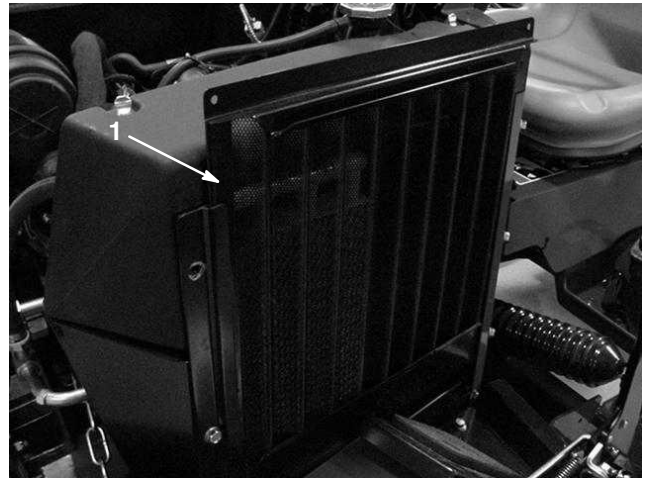
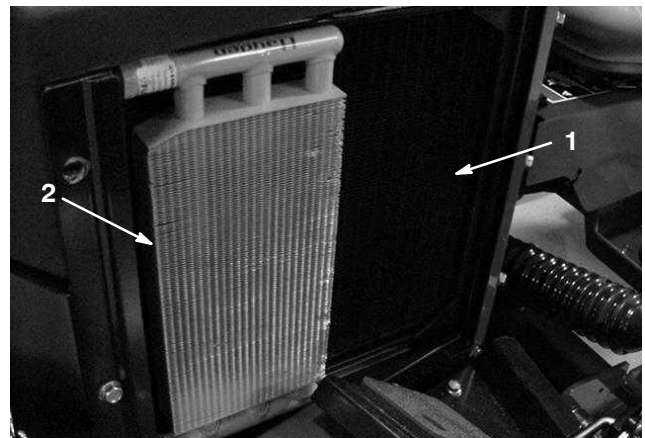

Figure 21
Figure 22
1. Clean debris off of the radiator screen (Fig. 21), radiator (Fig. 22) and oil cooler (Fig. 22) daily or hourly if conditions are extremely dusty and dirty; refer to Cleaning the Radiator and Screen, page 39.